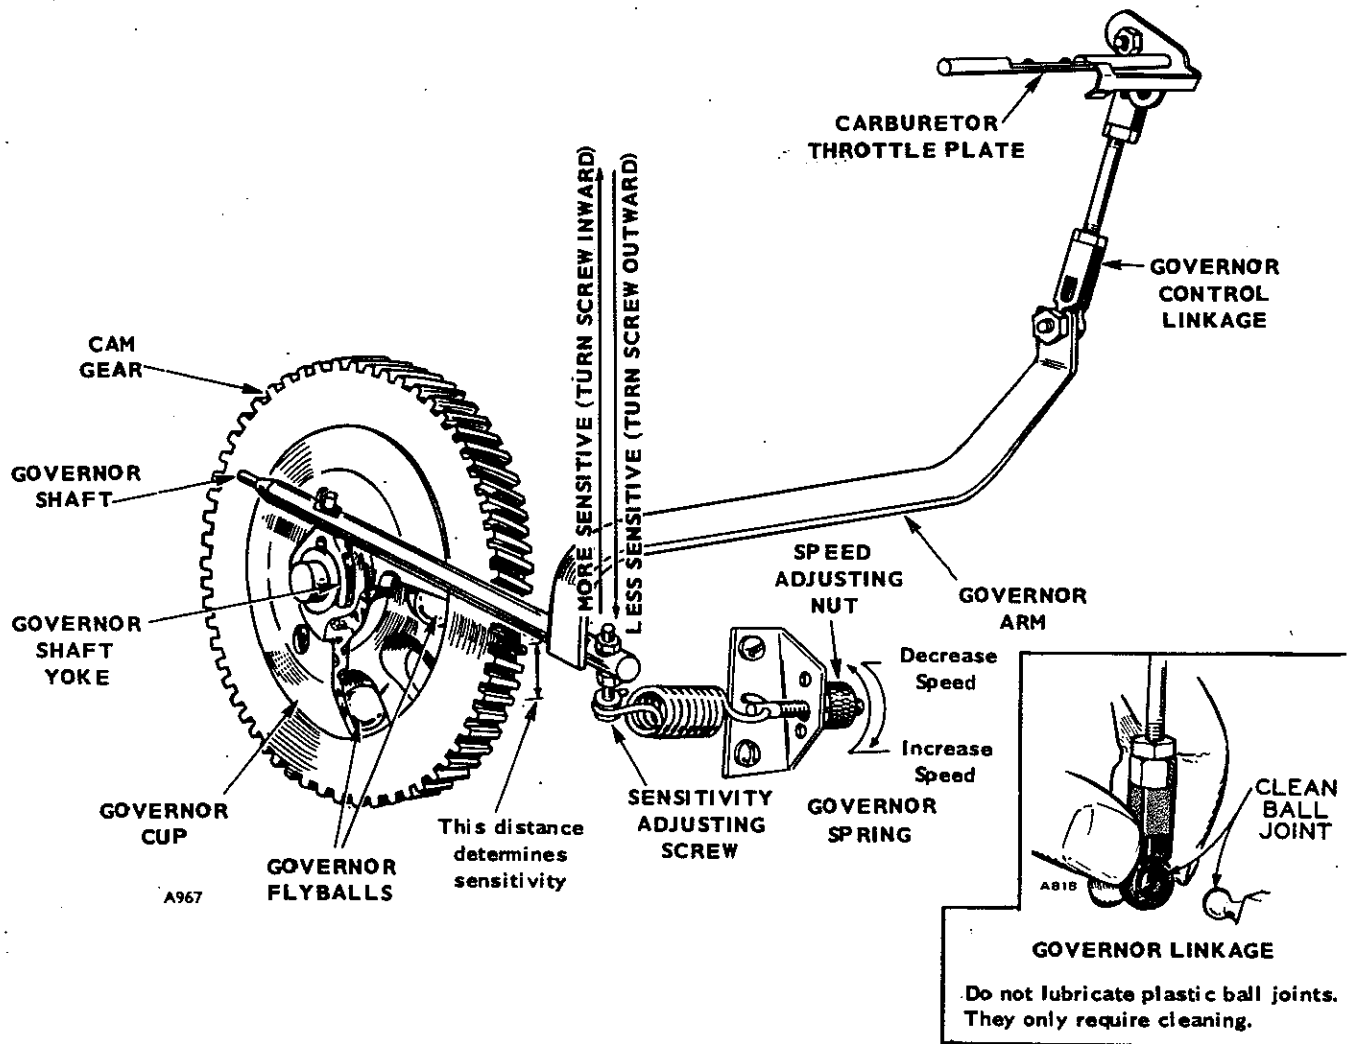

FIGURE 11-10. GOVERNOR ASSEMBLY
1. Disconnect and remove the governor linkage noting how to reassemble it. Draw a sketch or lay the parts out in the order of their disassembly. Figures 11-10 through 11-34 show many of the governor systems used on Onan engines.
At wide open position, the lever on the throttle shaft should just touch the carburetor body or clear it by no more than 1/32 inch (0.79 mm). Change the length of the connecting linkage as necessary to obtain this setting by turning the ball joints on the threads of the link (Figure 11-10).
Speed Adjustment: The setting of the speed adjusting screw (Figure 11-10) determines the speed at which the engine operates. Connect a voltmeter or frequency meter (or use a tachometer if these are not available) to the output of the generator. Start the engine and allow it to warm up. Set the engine speed according to the nameplate.